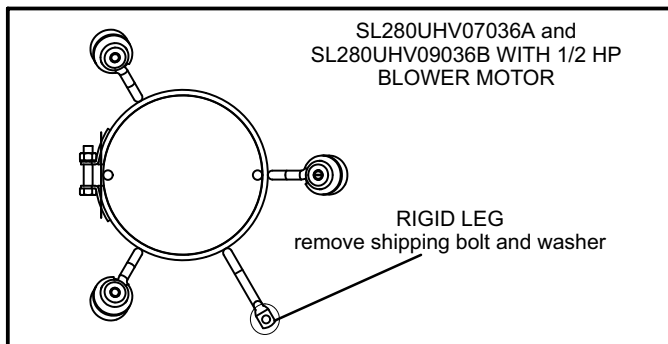

FIGURE 6
*NOTE - Units with 1/2 hp blower motors are equipped with three flexible legs and one rigid leg. See figure 6. The rigid leg is equipped with a shipping bolt and a flat white plastic washer (rather than the rubber mounting grommet used with a flexible mounting leg). **The bolt and washer must be removed before the furnace is placed into operation.** After the bolt and washer have been removed, the rigid leg will not touch the blower housing.*